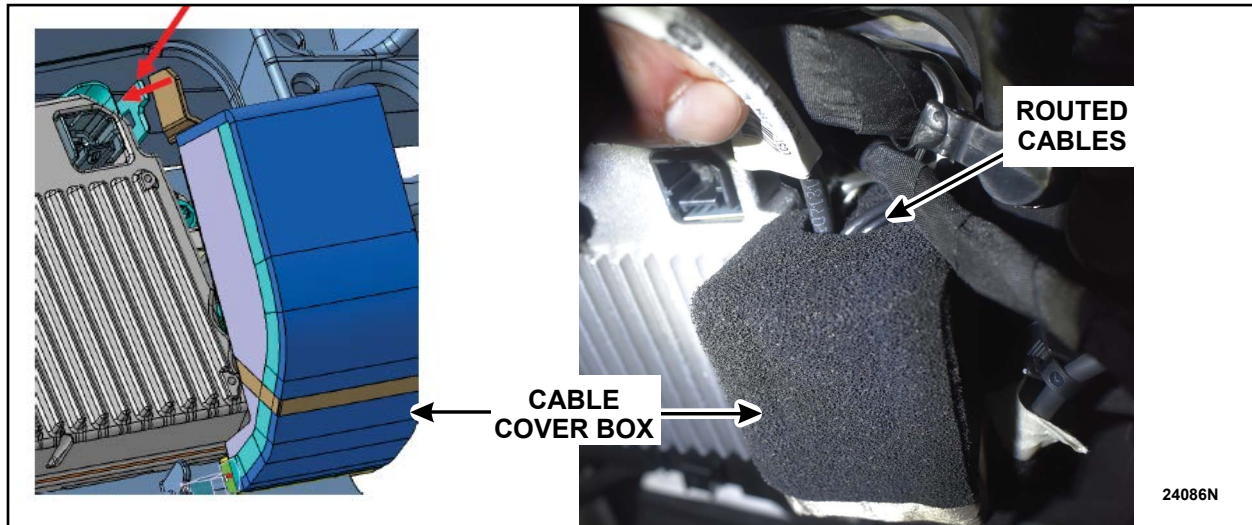

FIGURE 13
14. Rotate the cable cover box upward. Make sure to route the 3 cables from the module through the slot at the back of the cable cover box. The back tab will insert in the clip and the hook will snap into place. See Figure 13.